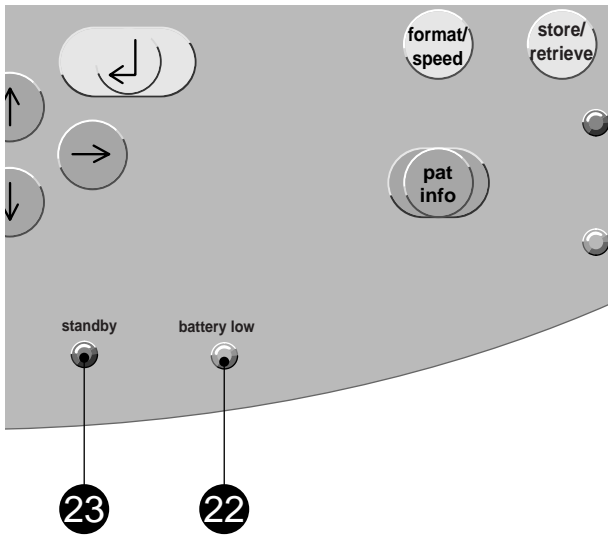

Figure 3-1. Indicators
The battery charges automatically when the unit is connected to the power line and the **standby** indicator **23** is illuminated (Figure 3-1). It is not necessary to switch on the device for charging. To ensure that the battery is always fully charged, leave the electrocardiograph connected to the power line whenever possible. After 4 hours the battery has regained its full capacity.
- Using the power cord, connect the device to the power line (Figure 3-1). Use only the original power cord or an equivalent cable.